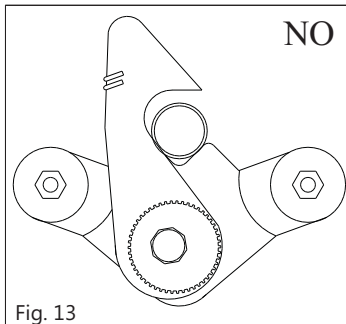
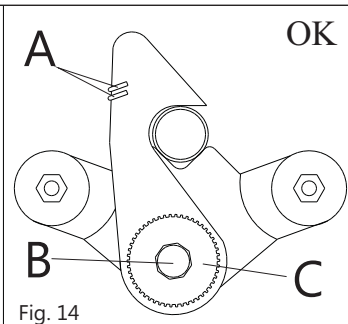

Fig. 13
Fig. 14
The locking hook is secured by two springs (A-fig.14). Before riding, be sure that both springs are working properly.
The correct position of the hook is illustrated in fig.14. If the hook goes out of adjustment (as illustrated in fig.13 and 15), readjust as follows:
- 6 loosen the screw (B) for a fraction of turn;
- 6 turn the knurled eccentric ring (C) until the hook assumes the position indicated in fig. 14;
- 6 tighten again the screw (B)